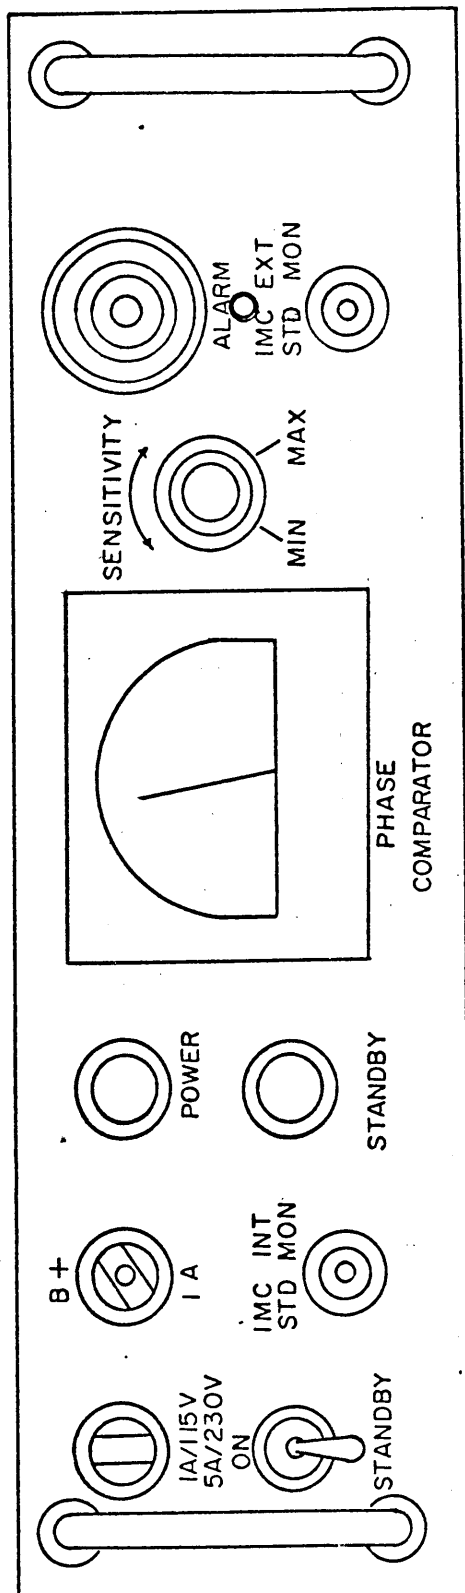
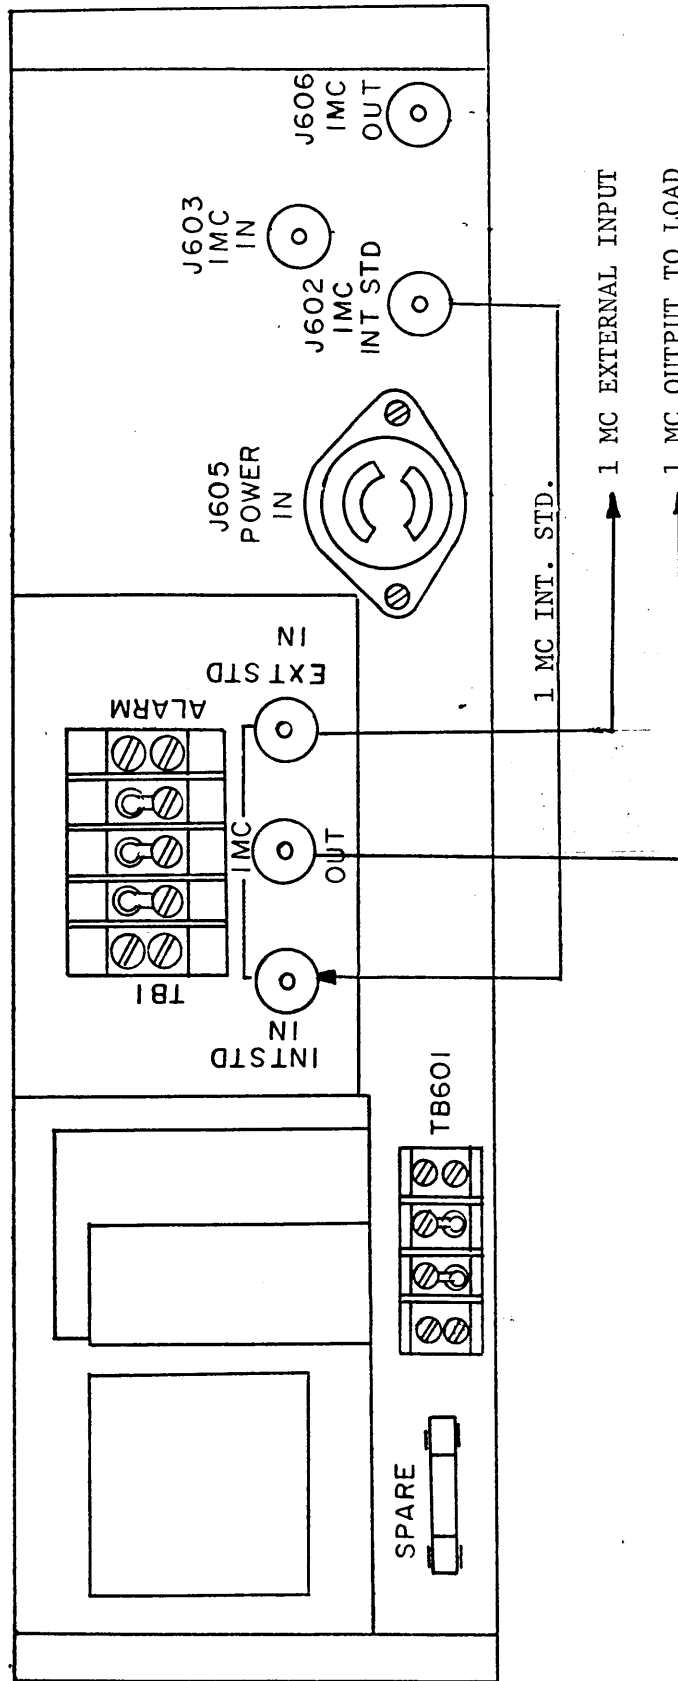

Figure 1-1. Model CSS-3B, Front Panel View
Figure 2-2. Model CSS-3B, Rear Panel View
- (1) All references to CSS-1B should be changed to CSS-3B.
- (2) Remove Figure 1-1 - replace with New Figure 1-1 Front Panel Line Drawing of CSS-3B provided with addendum.
- (3) In paragraph 1-4, under Semi-conductor Complement, add the following
- (4) In paragraph 2-2c, change J602 to J2.
- (5) Remove Figure 2-2 - replace with new Figure 2-2. Rear Panel Line Drawing of CSS-3B provided with addendum.